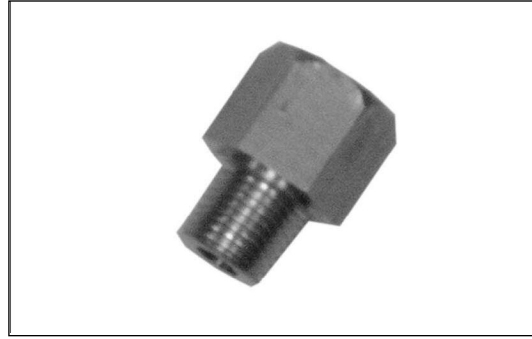

Fig 19
25. NG Orifice. (See Fig. 19)
5. NG orifice. (See Fig 19 on page 5)